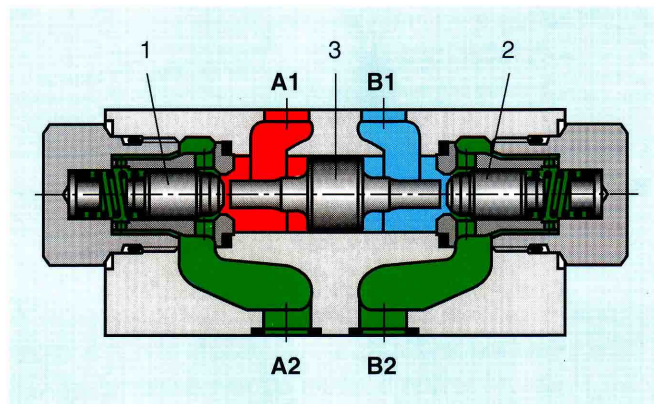

Fig. 14: Double check valve for sandwich plate mounting, type Z2S
- as sandwich plate valves (fig. 14)
By fitting two pilot operated check valves (1) and (2) in one housing, a double pilot operated check valve, type Z2S, is obtained (fig. 14).